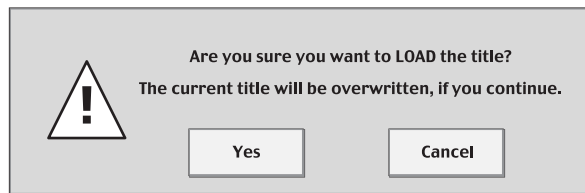

Figure 9
- 3** Press the LOAD button. The following dialog will appear: (See Figure 9)